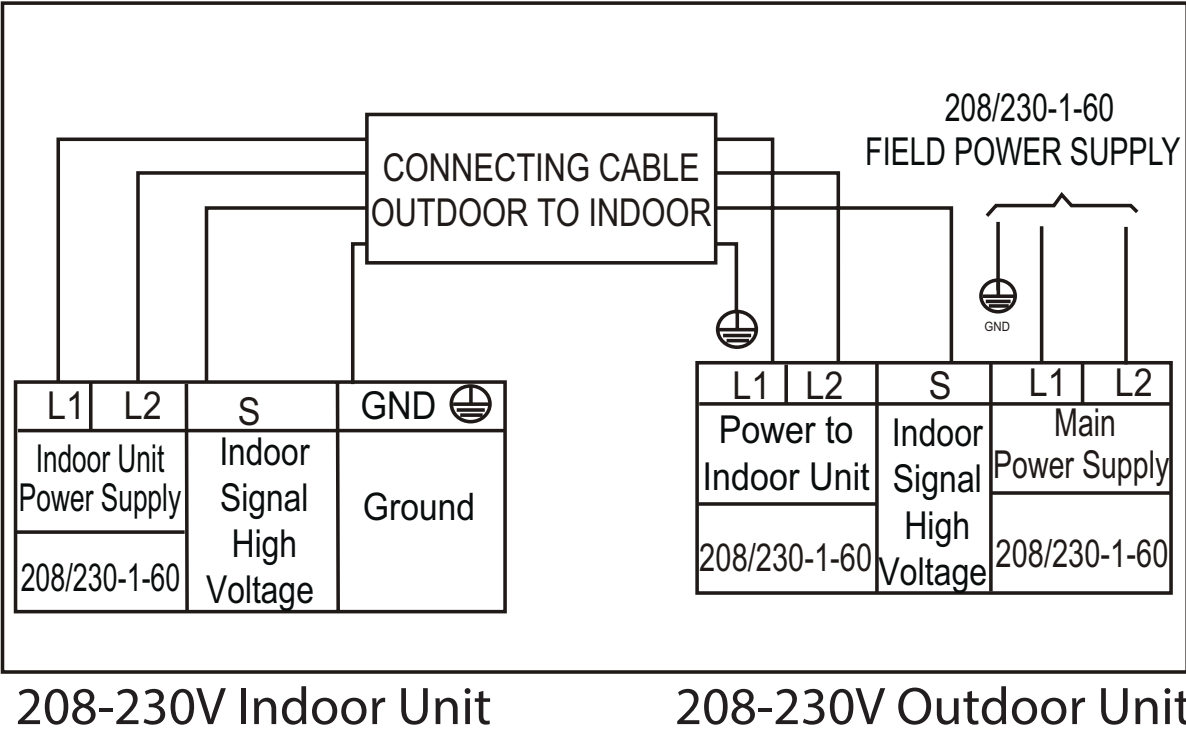

Fig. 4 — 208-230V
- 2. All connections between the indoor and outdoor units must be as shown in Figure 4. The connections are polarity sensitive and **improper wiring will result in a fault code.**